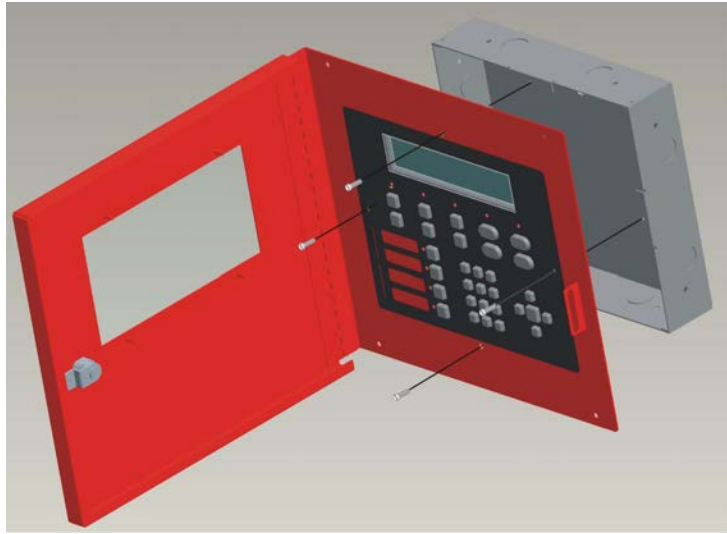

Figure 4.25 Attaching Annunciator / Door Assembly to Backbox
4. Attach the annunciator and door assembly to back box as shown in Figure 4.25 using the supplied screws.